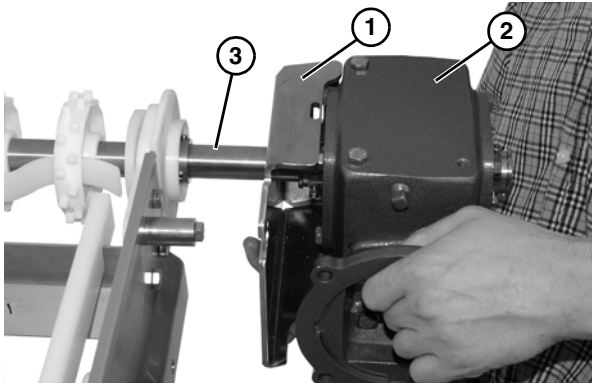

Figure 5
2. Install guard (Figure 5, item 1) onto gear reducer (Figure 5, item 2) with screws.
3. Install key onto conveyor shaft (Figure 5, item 3), and slide gear reducer assembly onto shaft.